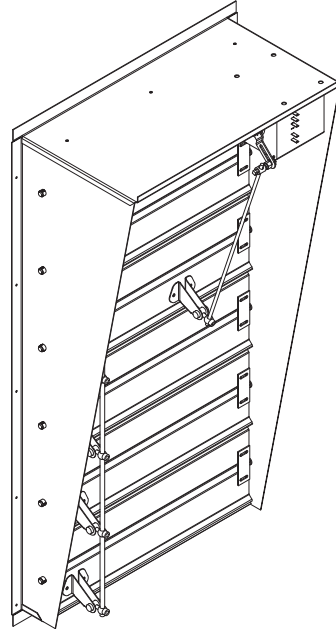

Figure 3
2. Attach motorized damper assembly using supplied 5/16" screws. **See Figure 3.**